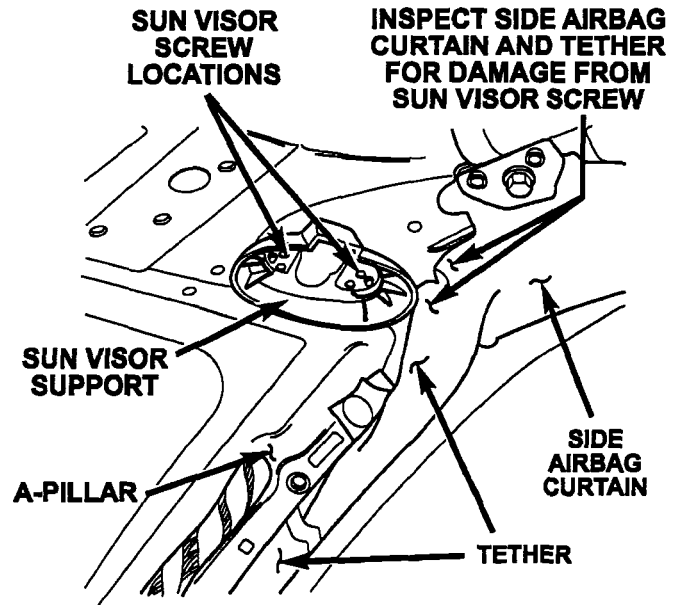

Figure 10
43. Inspect the left and right SABIC modules for damage to the curtain material and/or curtain tether where the sun visor screws were attached to the roof panel (Figure 10).